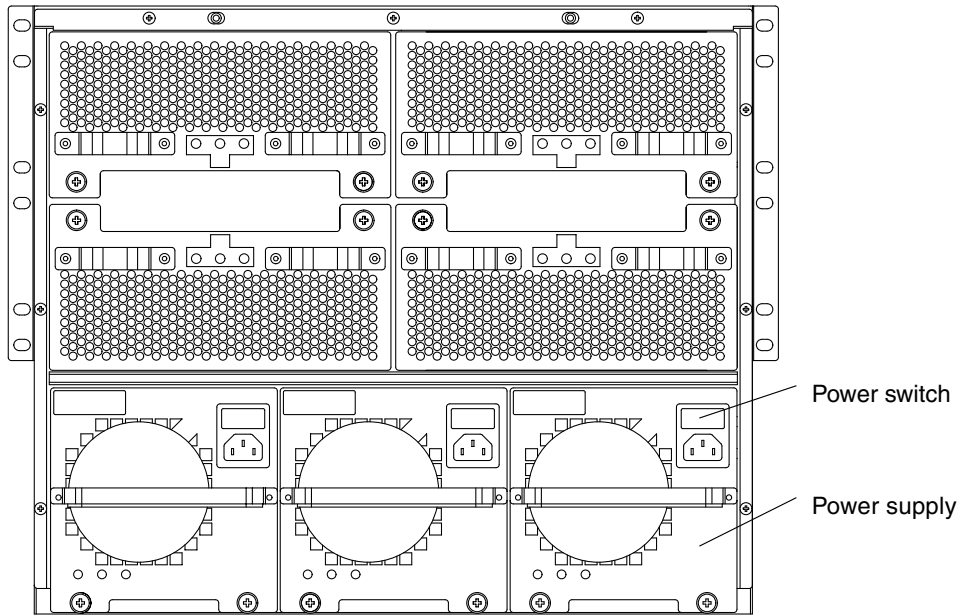

FIGURE 2-5 Sun Fire 3800 System Power Supplies—Rear View
4. If you have a Sun Fire 3800 system, turn off the power switch located on each power supply (FIGURE 2-5).
4. If you have a Sun Fire 3800 system, turn on the power switch located on each power supply (FIGURE 2-5).